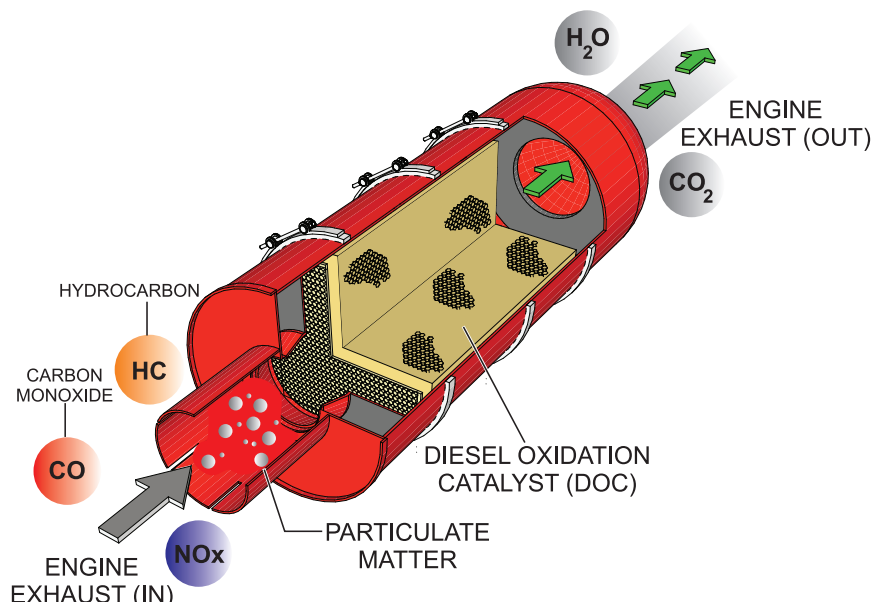

Figure 86. Diesel Oxidation Catalyst (DOC)
The DOC device (Figure 86) helps filter out large amounts of harmful **Nitrogen Oxides (NO_x)** and **Particulate Matter (PM)** which are emitted by diesel engines. These exhaust emissions pose serious environmental and health risks. It is important to maintain and service the DOC emission safety device on a periodic basis.